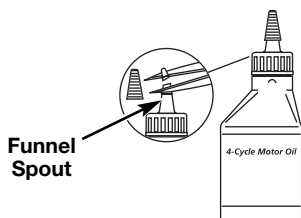

Fig. 9
Your unit is supplied with one 3.04 fluid oz. (90 ml.) bottle of SAE 30 SF, SG, SH oil (Fig. 9).
1. Unscrew the top of the bottle of oil and remove the paper seal covering the opening. Replace the top. Next, cut the tip off the funnel spout (Fig. 9).